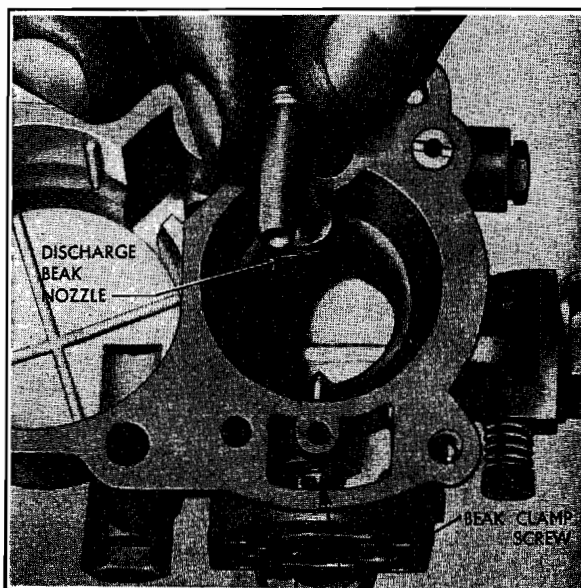

Fig. 10
3. Refit the discharge beak, securing it with the taper-ended clamp screw (Fig. 10).